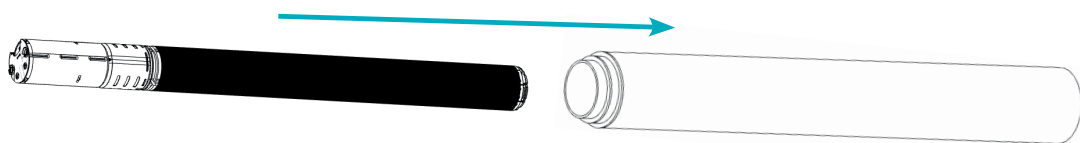

Fig. 10: Inserting the Actuator into a cylindrical Height-Adjustable Column (Thick Tube Down)
5. Use a suitable production tool (e.g. a hydraulic press) to insert the Actuator into the Height-Adjustable Column (Fig. 10)